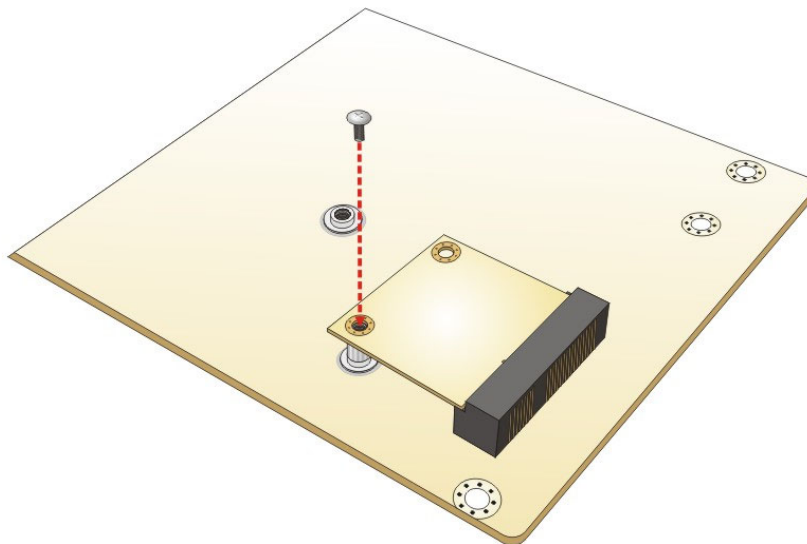

Figure 4-13: Securing the Half-size PCIe Mini Card
Step 6: Secure the half-size PCIe Mini card. Secure the half-size PCIe Mini card with the retention screw previously removed (Figure 4-13).